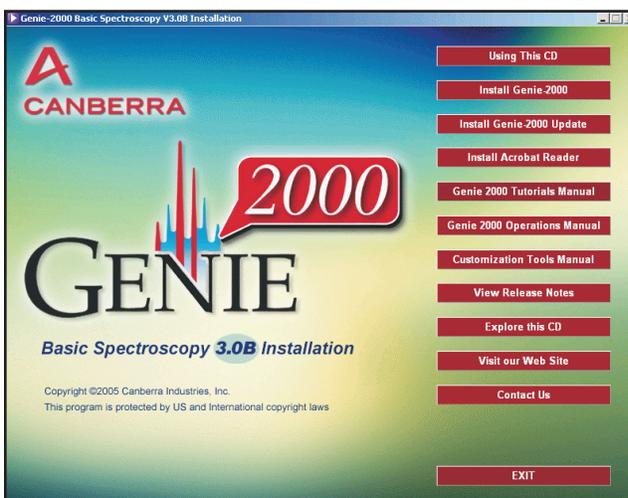

Figure 4 The Software Installation Screen
3. Select the **Install Genie 2000** button on the Basic Spectroscopy Installation screen (Figure 4) and follow the prompts on the screen.
With Genie 2000 V3.0 installed, select the **Install Genie 2000 Update** button on the Software Installation Screen (Figure 4) and follow the prompts on the screen.